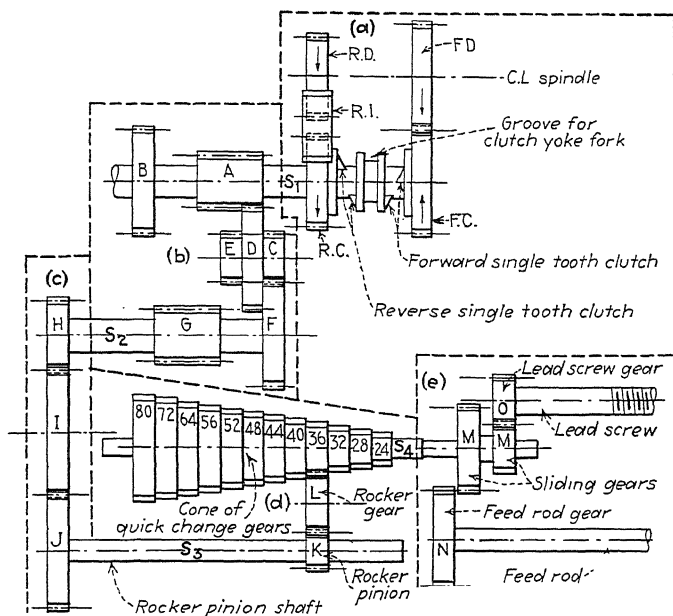

Fig. 30.—Shows the gearing from the main spindle to feed rod and lead screw. The dotted lines dividing the sections a, b, c, d, and e are for clearness.
The diagram (*d*, Fig. 30) illustrates the gearing by means of which 36 different feeds and also 36 different threads may be obtained by moving two handles. One handle serves to move the feathered pinion *K* along the shaft *S3* and also to engage a rocker gear *L* with any gear in the cone of gears (in the diagram the rocker gear is shown engaged with the 36-tooth gear). All
**42. Reversing Gears.**—In paragraph 39, page 51, the tumbling-gear reverse was discussed. Another much-used method is shown in *a*, Fig. 30. In the position shown, with the clutch neutral and the driven gears free, the shaft  $S_1$  does not turn. The clutch, feathered on the shaft, is moved to the right to engage  $F.C.$  for the forward motion of the driven shaft, to the left to engage  $R.C.$  for the reverse direction. Note that gears  $F.D.$  and  $F.C.$  are the same size, also that gears  $R.D.$  and  $R.C.$  are equal, therefore driving and driven speeds are equal, either forward or reverse. The size of the intermediate  $R.I.$  is unimportant; it serves to revolve the gear  $R.C.$  in the opposite direction of gear  $F.C.$